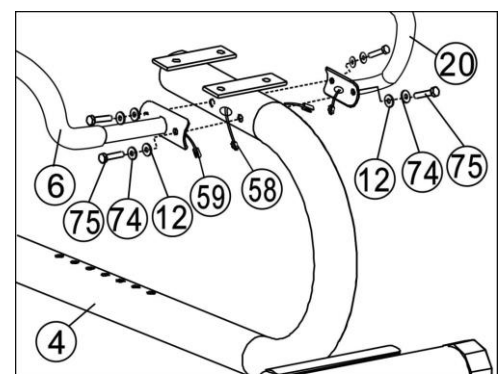

Figure 7
Connect the hand pulse wire II (59) from the Left and Right handlebar tubes (6, 20) to the hand pulse Wire I (58) from the Seat cushion adjustor (4). Attach the Left and Right handlebar tubes (6, 20) to the Seat cushion adjustor (4) with four M8\*20 Bolts (75), spring washers (74) and Arc washers (12). (See figure 7)